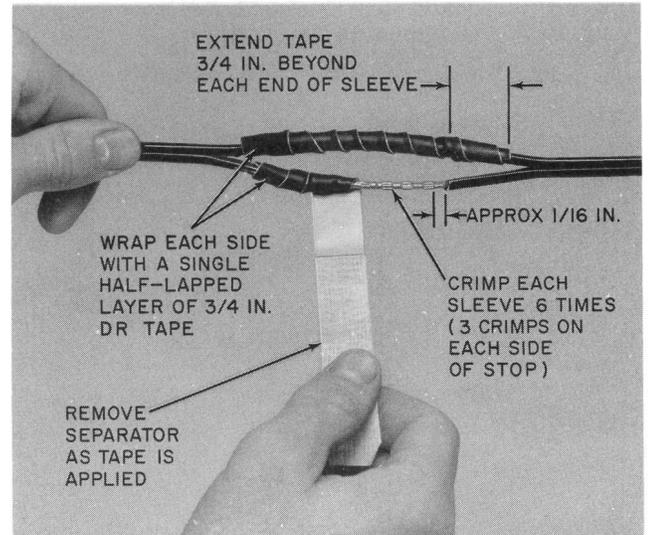

Fig. 6—Applying DR Tape After Crimping Sleeves
(7) Crimp each sleeve six times (approximately 1/16 inch intervals) and apply DR tape as shown in Fig. 6.